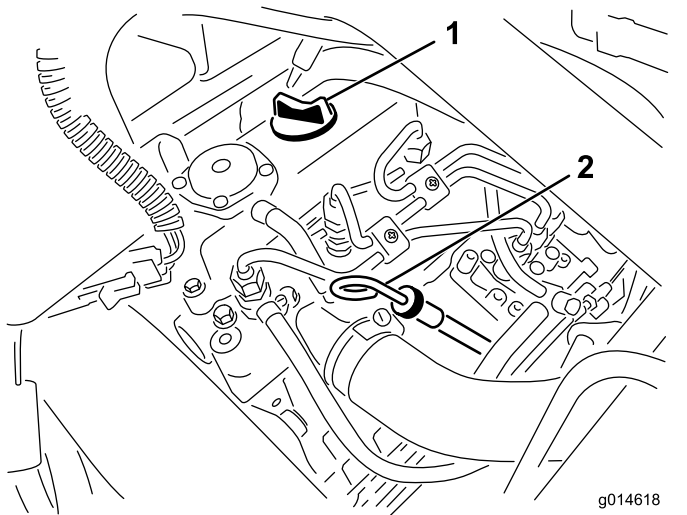

Figure 41
2. Remove the dipstick and wipe it with a clean rag (Figure 41).